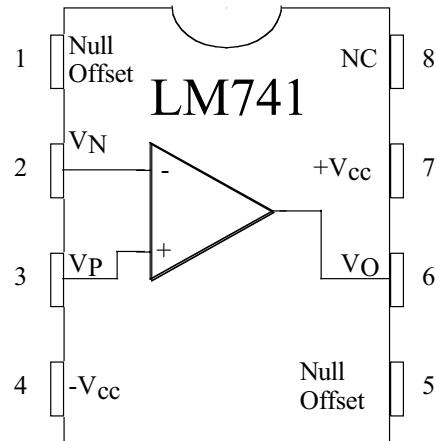

Figure 3: 741 Chip Layout Pin Connections
- Examine the chip layout of Figure 3. The standard procedure on DIP (dual in-line package) "chips" is to identify pin 1. Pin 1 is usually identified with a dot or it is positioned to the left of a notch at one end of the chip package. Generally, the notch separates pin 1 from the last pin on the chip. In the case of the 741, the notch is positioned between pins 1 and 8.